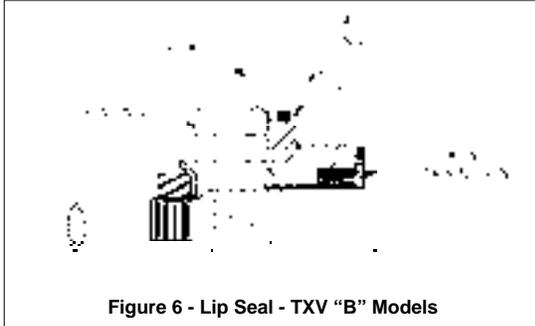

Figure 6 - Lip Seal - TXV "B" Models
The lip seal assembly (152) consists of a metal housing with elastomer(s) around its outer diameter(s), and a teflon lip seal in its inner diameter. TXV "A" model pumps are equipped with spacer washers. Refer to Figures 6 and 7.